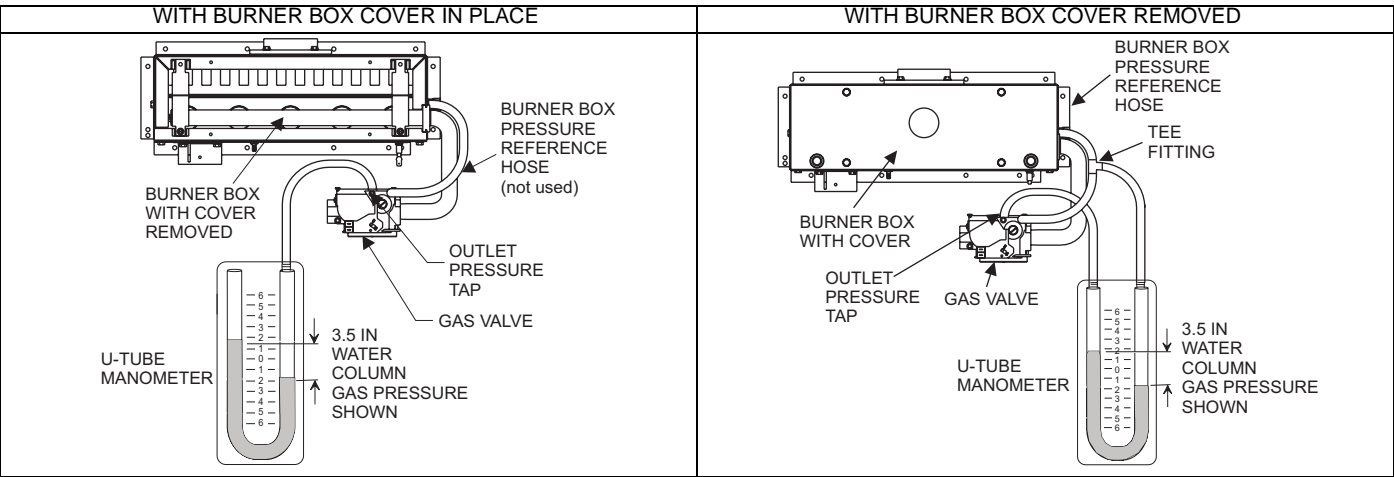

FIGURE 26: Reading Gas Pressure
Manifold gas pressure may be measured by two different procedures. It may be measured with the burner box cover in place or it may be measured with the burner box cover removed. Follow the appropriate section in the instructions below. Refer to Figure 26 for a drawing of the locations of the pressure ports on the gas valve.
1. Refer to Figure 26 for location of pressure regulator adjustment cap and adjustment screw on main gas valve.